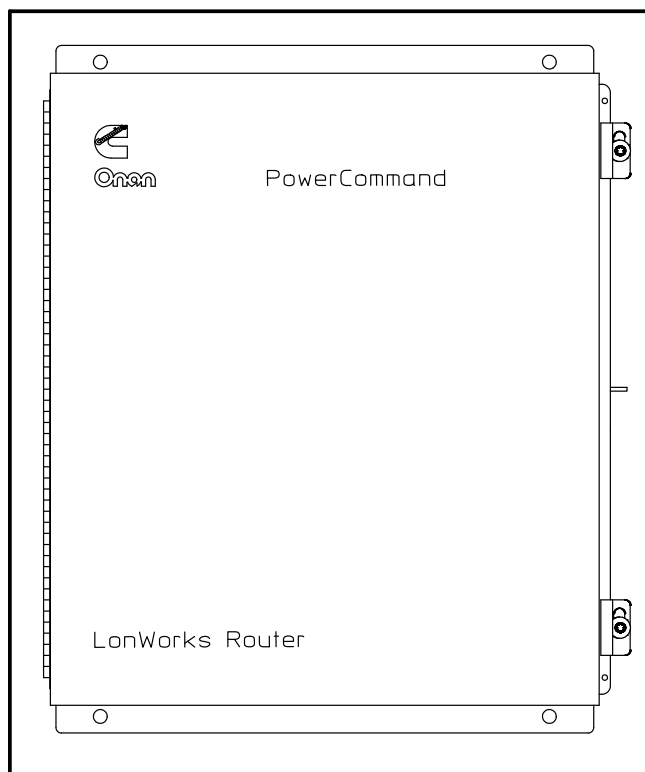
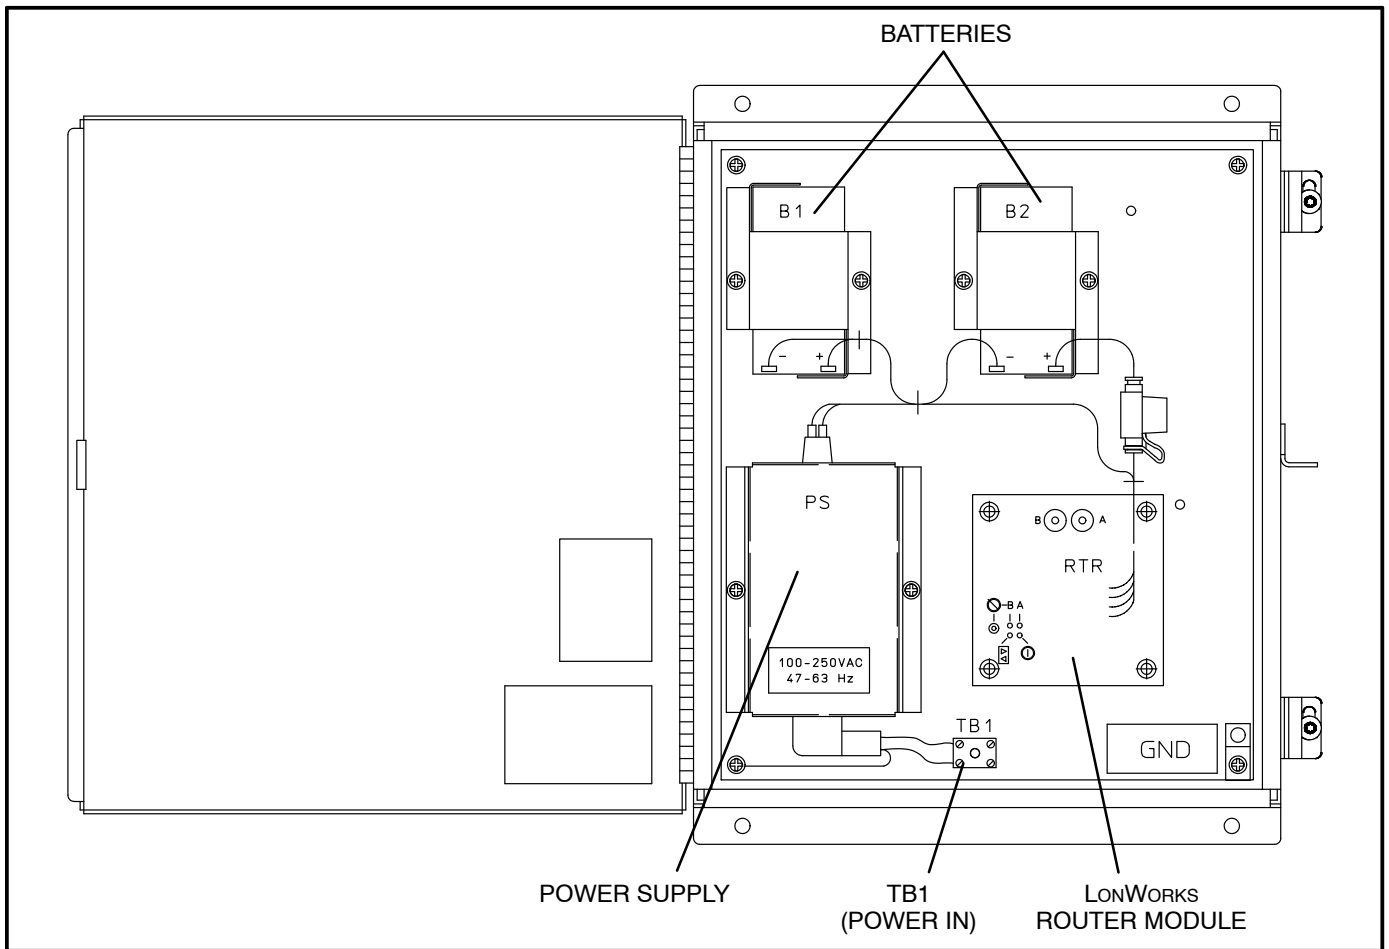
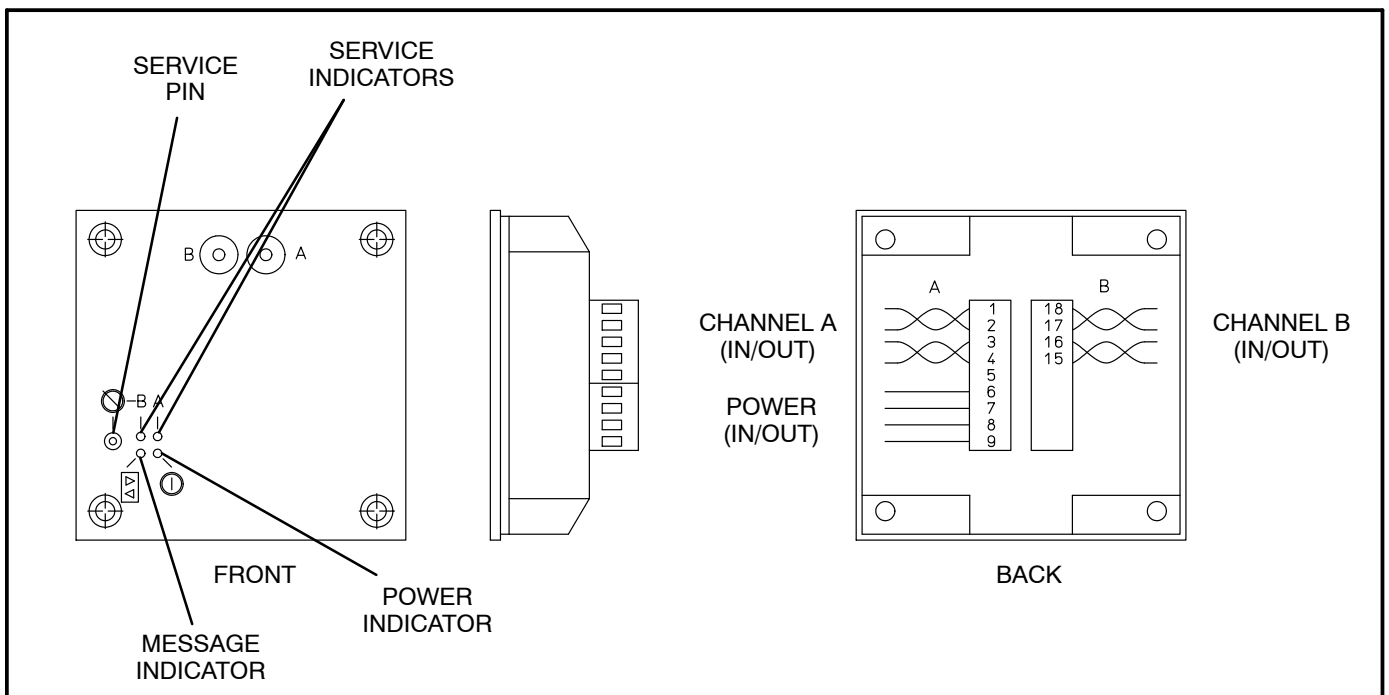

FIGURE 18-1. LONWORKS ROUTER
FIGURE 18-2. LonWorks ROUTER OUTLINE DRAWING
FIGURE 18-3. LonWorks ROUTER MODULE DETAIL
See Figure 18-1 for an outline drawing of the LONWORKS Router enclosure. Figure 18-2 shows the inside of the enclosure. Details on the router module are shown in Figure 18-3.
Routers do not include a terminator circuit. Two network terminators are included with the router kit. FT-10 segments require one termination. Refer to Figure 18-2 for the router connection points.
1. Install a three amp fuse in the fuse holder (see Figure 18-2).
4. Connect the stranded twisted pair to the appropriate router channel terminals. See Figure 18-3. If the router is not at the end of the bus, connect each stranded twisted pair cable (from the previous device and to the next device) to the router.